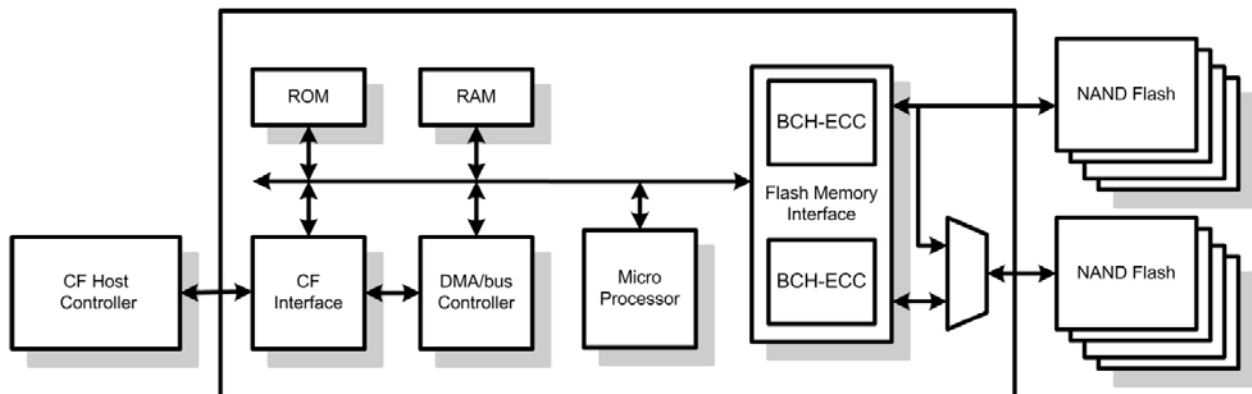

Figure 1: CompactFlash Card HERCULES-N Series Controller Block Diagram
| FIGURE 1: COMPACTFLASH CARD HERCULES-N SERIES CONTROLLER BLOCK DIAGRAM | - 8 - |
Figure 1 shows a block diagram of the used high tech CompactFlash (CF) Card controller.